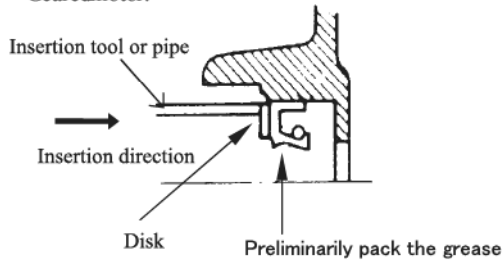

Fig.10. Oil seal insertion Method
- (1) To reinsert the oil seal, use the insertion tool. As shown in Fig.10, attach the disc to the oil seal, and then push the oil seal with the insertion tool or pipe to insert the seal into the hole..